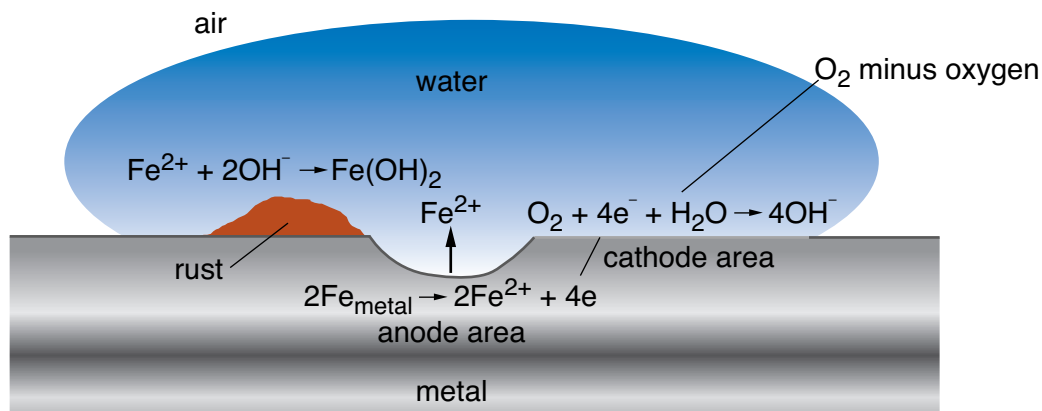

Figure 2
In the process of rusting, iron metal (Fe_{metal}) loses electrons at one location, known as the *anode*, and gains them at another, the *cathode*. This causes oxygen, which is at the cathode, to gain electrons and become hydroxide (OH^-). The hydroxide joins with the positively charged iron atoms to form an intermediate compound, iron (II) hydroxide, $\text{Fe}(\text{OH})_2$, near the anode area. The $\text{Fe}(\text{OH})_2$ is then even further oxidized by the oxygen dissolved in the water to form Fe^{+3} and water. Excess oxygen in the water or in the atmosphere is attracted to the iron ions at the anode area because of their positive charge. When excess oxygen joins with the Fe^{+3} , it forms rust, iron (III) oxide (see Figure 2).